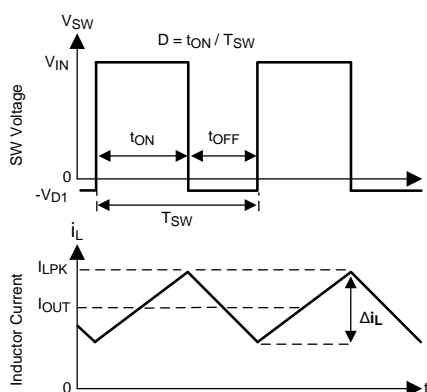

Figure 25. SW Node and Inductor Current Waveforms in Continuous Conduction Mode (CCM)
The following operating description of the LM43602-Q1 will refer to the *Functional Block Diagram* and to the waveforms in *Figure 25*. The LM43602-Q1 is a step-down Buck regulator with both high-side (HS) switch and low-side (LS) switch (synchronous rectifier) integrated. The LM43602-Q1 supplies a regulated output voltage by turning on the HS and LS NMOS switches with controlled ON time. During the HS switch ON time, the SW pin voltage V_{SW} swings up to approximately V_{IN} , and the inductor current i_L increases with a linear slope $(V_{IN} - V_{OUT}) / L$. When the HS switch is turned off by the control logic, the LS switch is turned on after a anti-shoot-through dead time. Inductor current discharges through the LS switch with a slope of $-V_{OUT} / L$. The control parameter of Buck converters are defined as Duty Cycle $D = t_{ON} / T_{SW}$, where t_{ON} is the HS switch ON time and T_{SW} is the switching period. The regulator control loop maintains a constant output voltage by adjusting the duty cycle D . In an ideal Buck converter, where losses are ignored, D is proportional to the output voltage and inversely proportional to the input voltage: $D = V_{OUT} / V_{IN}$.